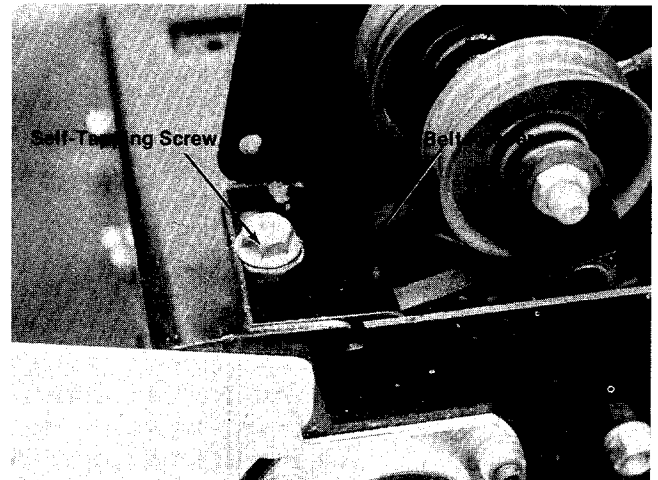

FIGURE 36.
2. Remove the belt keeper by removing the self-tapping screw shown in figure 36. A 9/16" wrench is required.
4. Remove bottom cover. First remove the two self-tapping screws shown in figure 36 with a 1/2" wrench. Then lift cover out from the slots in the frame. See figure 37.